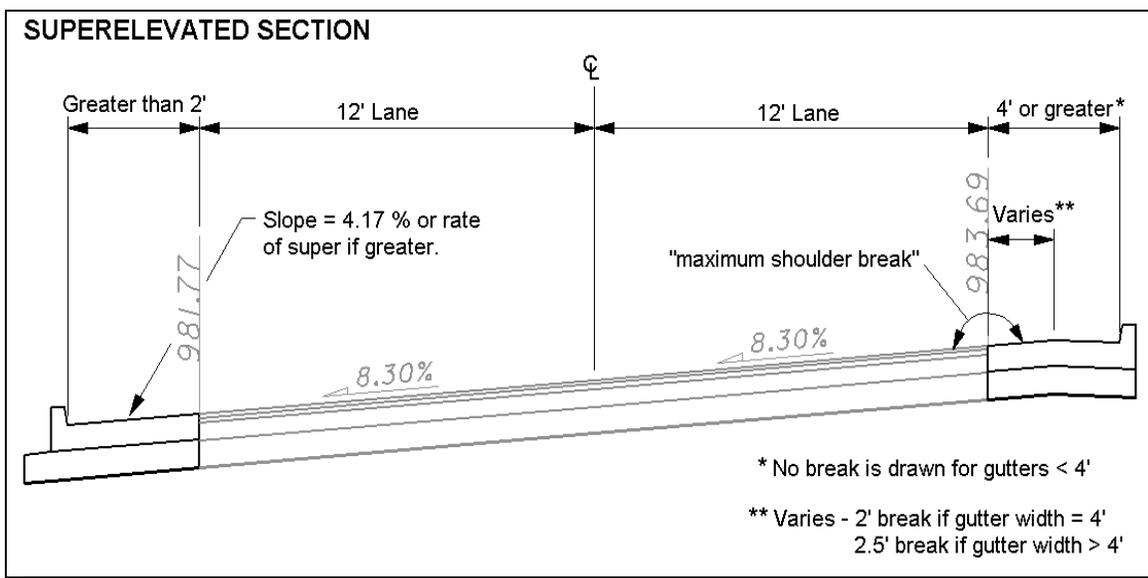

Figure 5
- The variable "**maximum shoulder break**" is ignored if the gutter width is less than 4 feet. See Figure 5.
In cases where the gutter width is greater than 4', the criteria will break the slope of the gutter on the high side of superelevation as shown in Figure 5 below. This variable is used to set the maximum slope break between the pavement and the gutter. The default value is 7%.